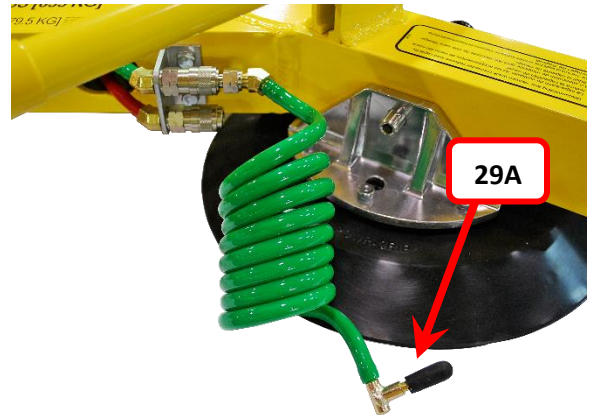

FIGURE 29
8) Remove the pad fitting from each of the vacuum pads of the circuit, green or red, being tested. Cap off all the pad fittings, 29A, as shown in **FIGURE 29**.